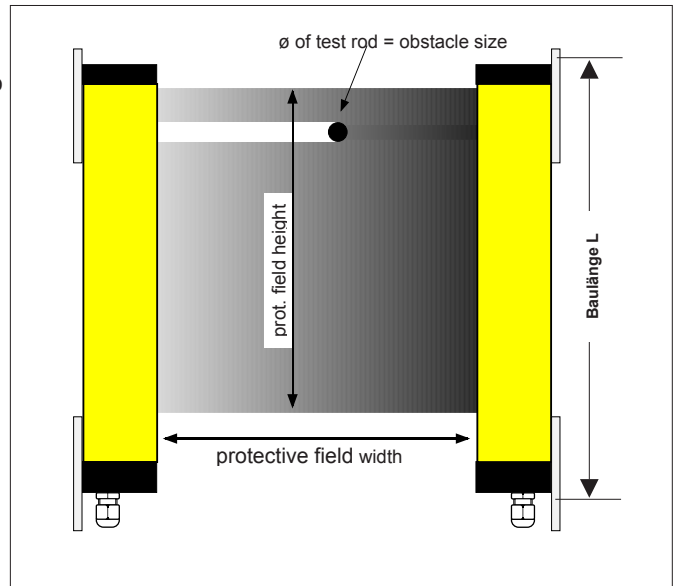

fig. 9/1 transmitter and receiver form the protective field
The TLVT/ILVT safety light barriers consist of two components: The light transmitter and receiver. The distance between the two components and the installation height are calculated from the width and height of the protective field (Fig. 9/1).
- equivalent / antivalent outputs (Fig. 9/1)